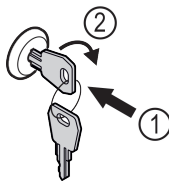

Fig. 165
- ▶ Insert the key. Fig. 165 (1)
- ▶ Turn the key clockwise by 90°. Fig. 165 (2)